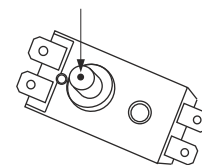

Fig. 17
- for FS1/FS5/FE1 series vertical-type water heaters: unscrew retaining nut of the thermal switch, fastened on the flange of the heating element, turn the thermal switch and press the button, located in the center of the thermal switch, until it clicks; Fig. 17;